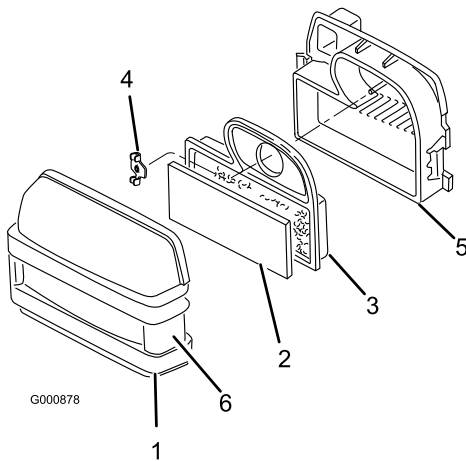

Figure 27
3. Clean around the air cleaner to prevent dirt from getting into the engine and causing damage. Unlatch the two side latches and remove the air cleaner cover (Figure 27).
4. Carefully remove the foam element from the paper element (Figure 27).
5. Unscrew the wing nut and remove the paper element (Figure 27).
1. Carefully slide the foam element onto the paper air cleaner element (Figure 27).
- Place the air cleaner assembly onto the air cleaner base and install the wing nut (Figure 27).
- Install the air cleaner cover and secure the latches (Figure 27).